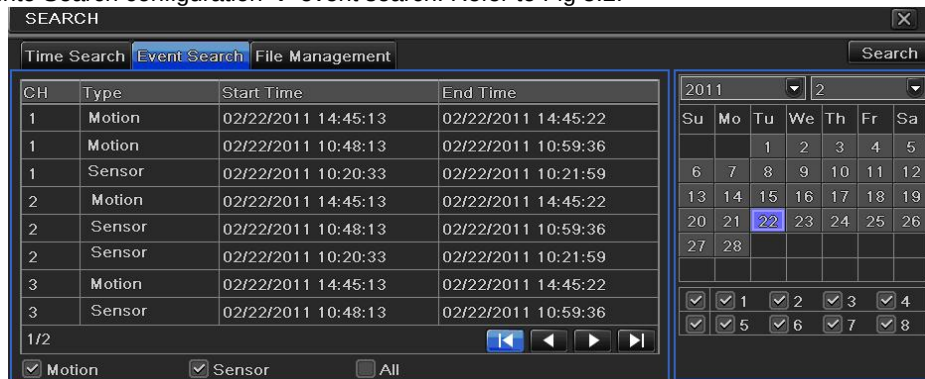

Fig 5.2 Search Configuration - Event Search
Step 1: Enter into Search configuration → event search. Refer to Fig 5.2.